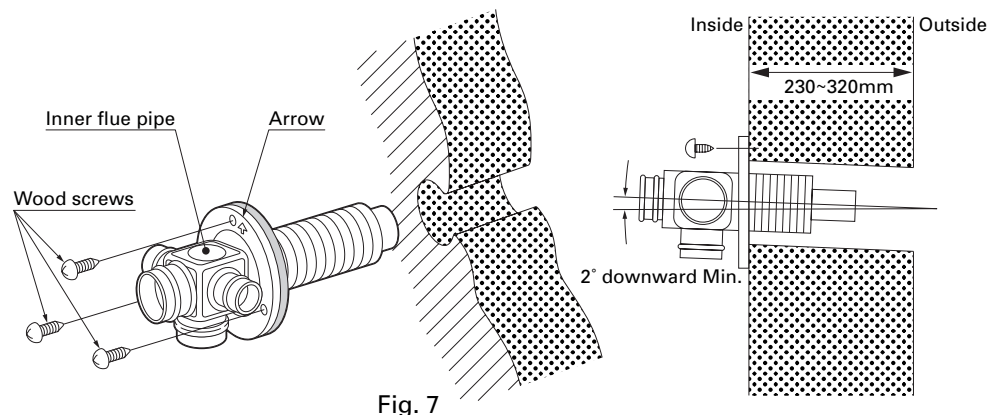

Fig. 7
- a. From inside, insert the Balanced Flue Pipe into the hole. Ensure the arrow on the inner flue flange is pointing UP, and prepare to secure the flange to the wall. (See Fig. 7)